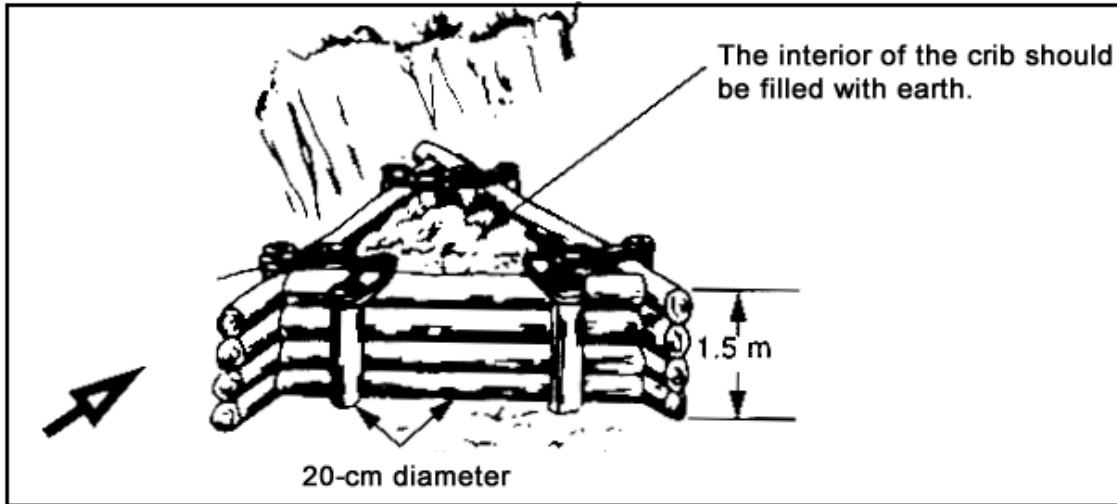

Figure 052-195-3066-8
- a. Direct the construction of a triangular log crib (Figure 052-195-3066-8). Ensure that--